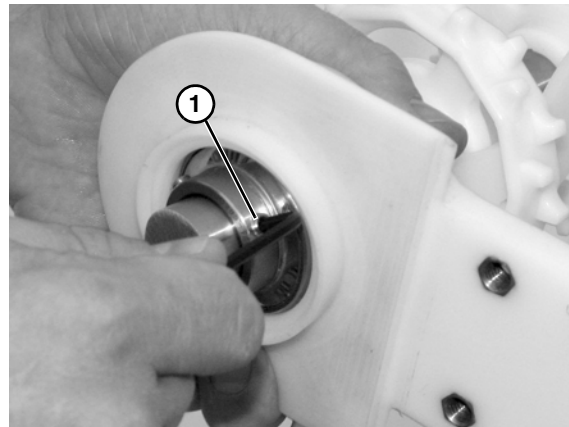

Figure 57
6. Loosen set screws (Figure 57, item 1).